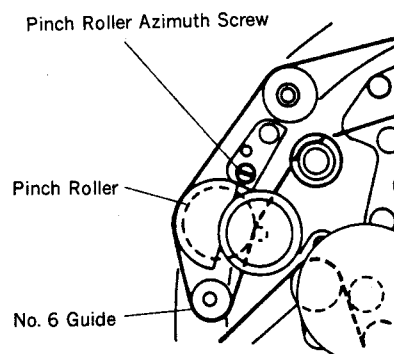

Fig. 12
- (4) while adjusting the playback rising edge, turn the azimuth screw of the Pinch Roller clockwise about 5 degrees step. (fig.12)
(9) While adjusting the playback rising edge, turn the azimuth screw of the Pinch Roller clockwise about 5 degrees step. (fig. 12)